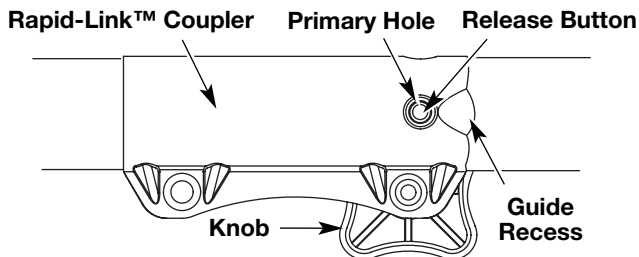
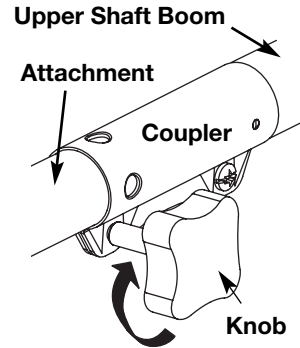

Fig. 3
Fig. 4
3. While firmly holding the attachment, push it straight into the coupler until the release button (Fig. 3) snaps into the primary hole (Fig. 3). The primary hole is on the opposite side of the coupler from the knob (Fig. 3). Align the release button with the Guide Recess (Fig. 3) to help installation.
CAUTION: Lock the release button in the primary hole (Fig. 3) and securely tighten the knob before operating this unit.
4. Turn the knob clockwise to tighten (Fig. 4).
CAUTION: Before operating this unit, be sure that the release button is fully snapped into the primary hole (Fig. 3), and that the knob (Fig. 4) is securely tightened.
3. Press and hold the release button (Fig. 3).
4. While firmly holding the upper shaft boom (Fig. 4), pull the attachment out of the coupler.